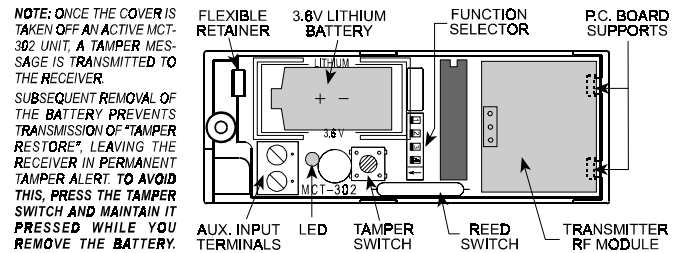

Figure 1. MCT-302 with Cover Removed
- Flex out the circuit board retainer (Figures 1 and 5) and detach the circuit board from the base.